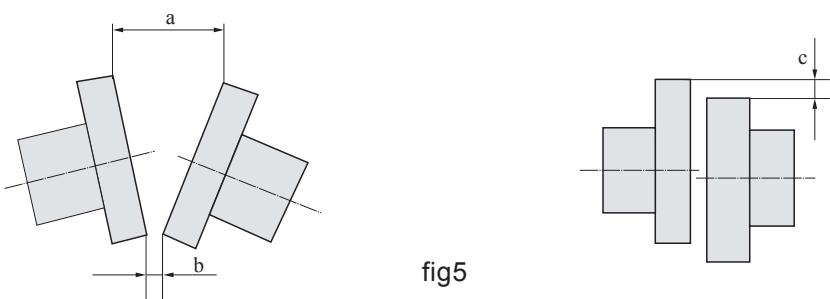

fig5
- b. Put the pad under the motor while to adjust both pump and motor. Angle adjustment is to guarantee the parallelism of the two planes of the clutches. Use a dial gauge to check four points on the end-face of the clutch flange, the reading on the gauge is 0.02~0.03, and use a feeler to check the parallelism, the difference (a-b) between the two planes is ≤ 0.06 (see Fig. 5). Central line alignment means the aligned degree between the central lines of both pump and motor's shafts, c should be ≤ 0.08 (see Fig. 5)